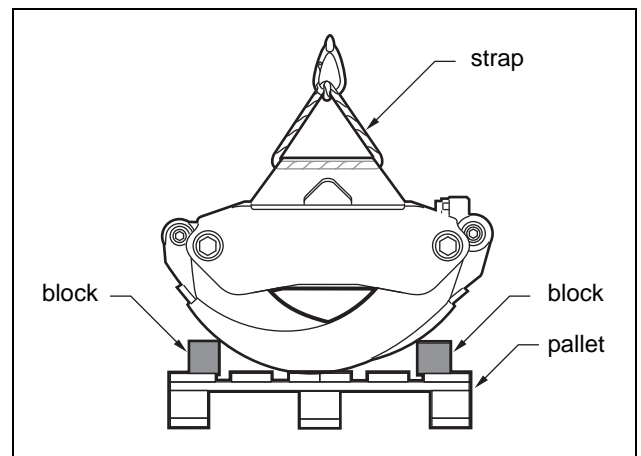

Fig. 10 Arrangement of the grapple at transportation or service
Note! Nail blocks to the pallet base to prevent the grapple from falling during transportation or service. Tie a strap around the stand for safe lifting. *See Fig. 10.*
1. Place the grapple on a firm base. *See Fig. 10.*